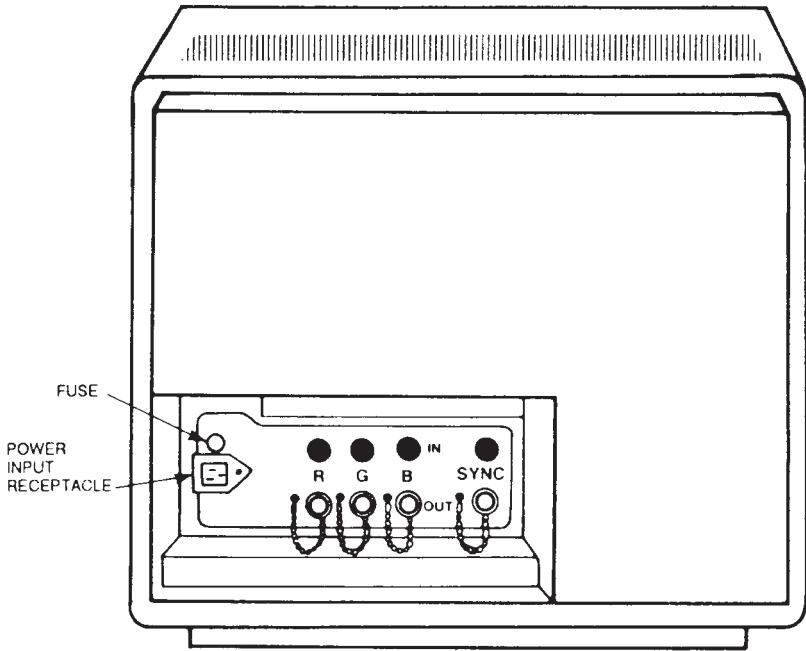

Figure A-1: Monitor Back Panel for Nineteen-inch 60-Hz Monitor
The 60-Hz non-interlaced monitors have a monitor control panel on the lower right front. On the back of the monitors are several ports for receiving video signals and a power socket. These monitors are available in two sizes, nineteen-inch and fifteen-inch. (See Figures A-1 and A-2.)
The monitor back panel has several connectors for the cables that connect the monitor to the cabinet (see Figures A-1, A-2, and A-3).
- The fuse protects the circuit. See the information printed next to the fuse for type and rating requirements. (See Figure A-1.)
- The power input receptacle attaches to the power cable. See the information printed next to the receptacle for power requirements. (See Figure A-1.)